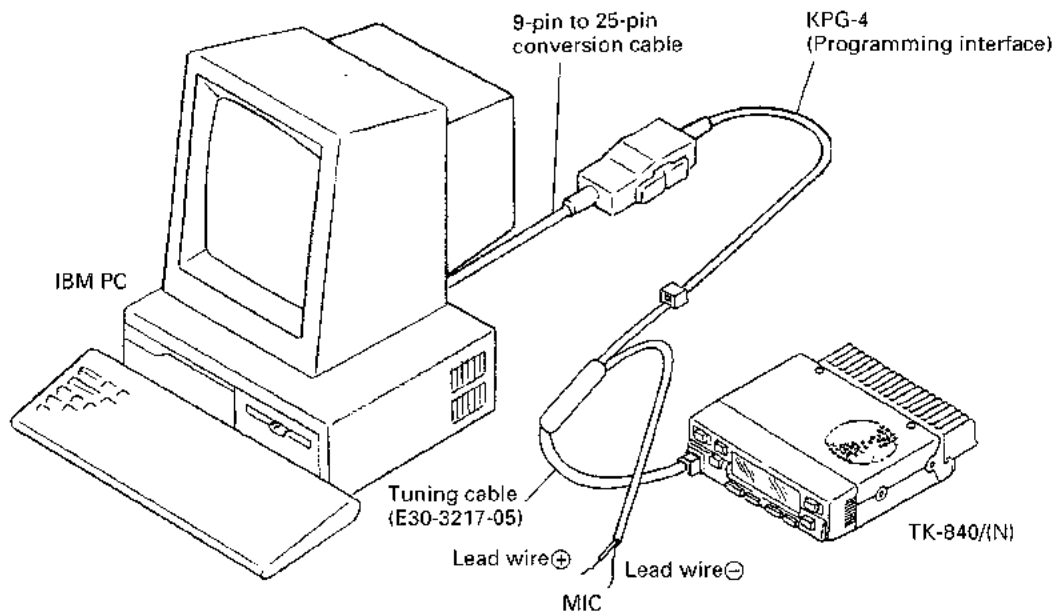

Fig. 4
The TK-840/(N) transceiver is programmed using an IBM PC or compatible machine, a programming interface (KPG-4), and a programming disk (KPG-25D). Figure 4 shows the setup for an IBM PC.